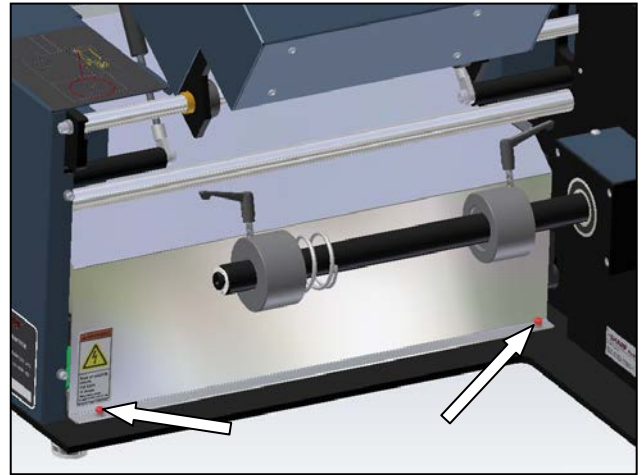
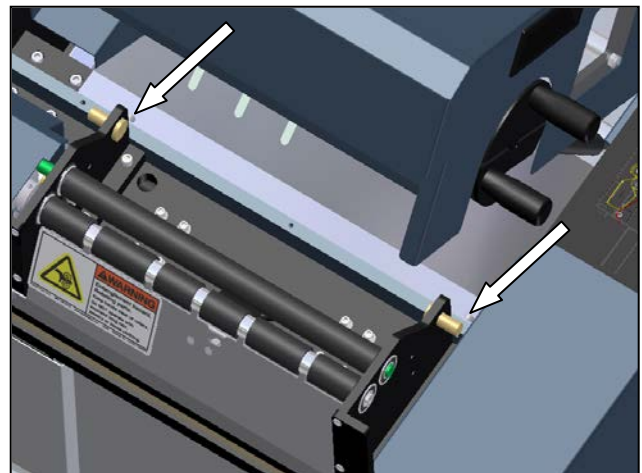

Figure 3-90. Motor Cover Rear Screws
Figure 3-91. Motor Cover Front Screws
1. Remove the two rear screws and the two front screws from the Motor Cover (Figure 3-90 and Figure 3-91).